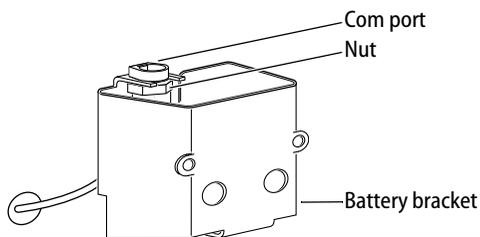

Figure 16 Installing the com port in the battery bracket (B.A.S.I.S. and NT500 only)
- 1 Routing the wire harness into the bottom of the battery bracket, slide the com port into its mounting slot inside the battery bracket as shown in Figure 16.